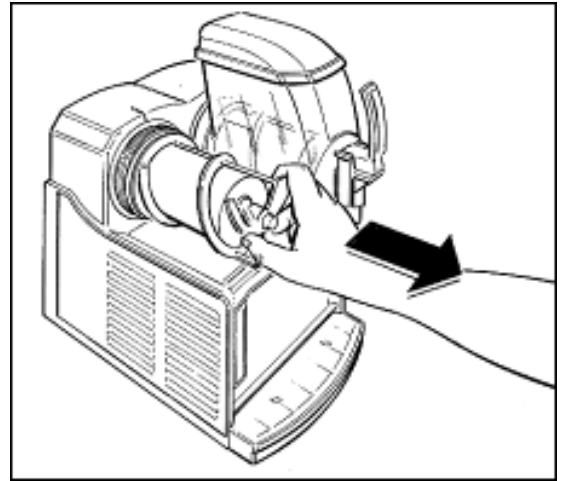
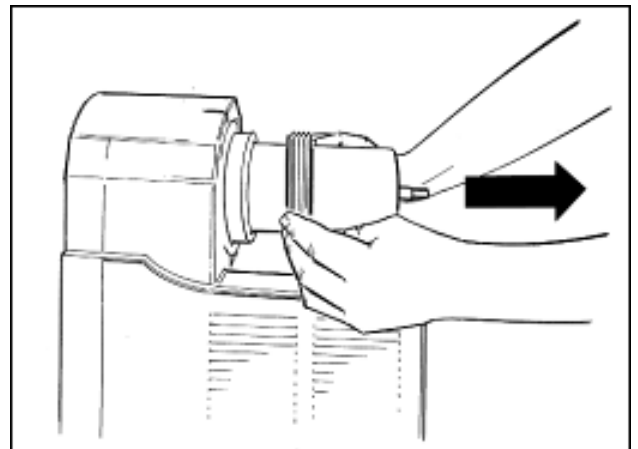

Fig. 37
Fig. 38
- Simultaneously press the two securing tabs and lift the tap to extract it from its seat (see Fig. 37).
- Pull out the mixing unit, the bell shaped seal and the bowl gasket on the back (Fig. 37 and Fig. 38).